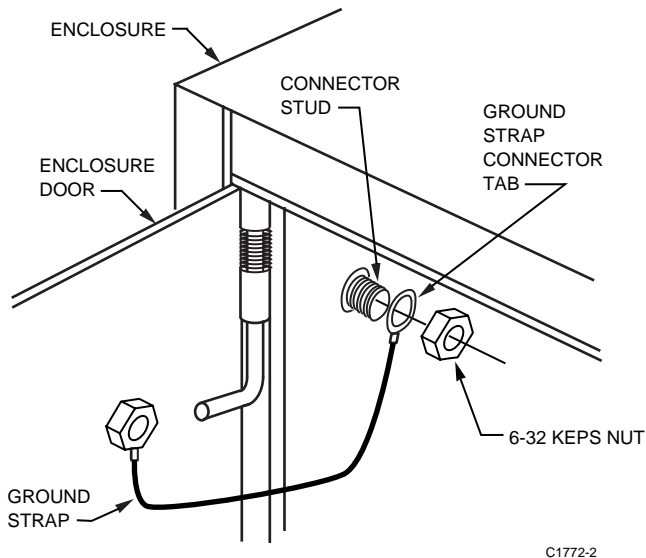

Fig. 10. Connect ground strap.
6. Slip the connector tab of the enclosure door ground strap over the connector stud on the inside wall of the enclosure (Fig. 10). Secure with the keps nut provided.